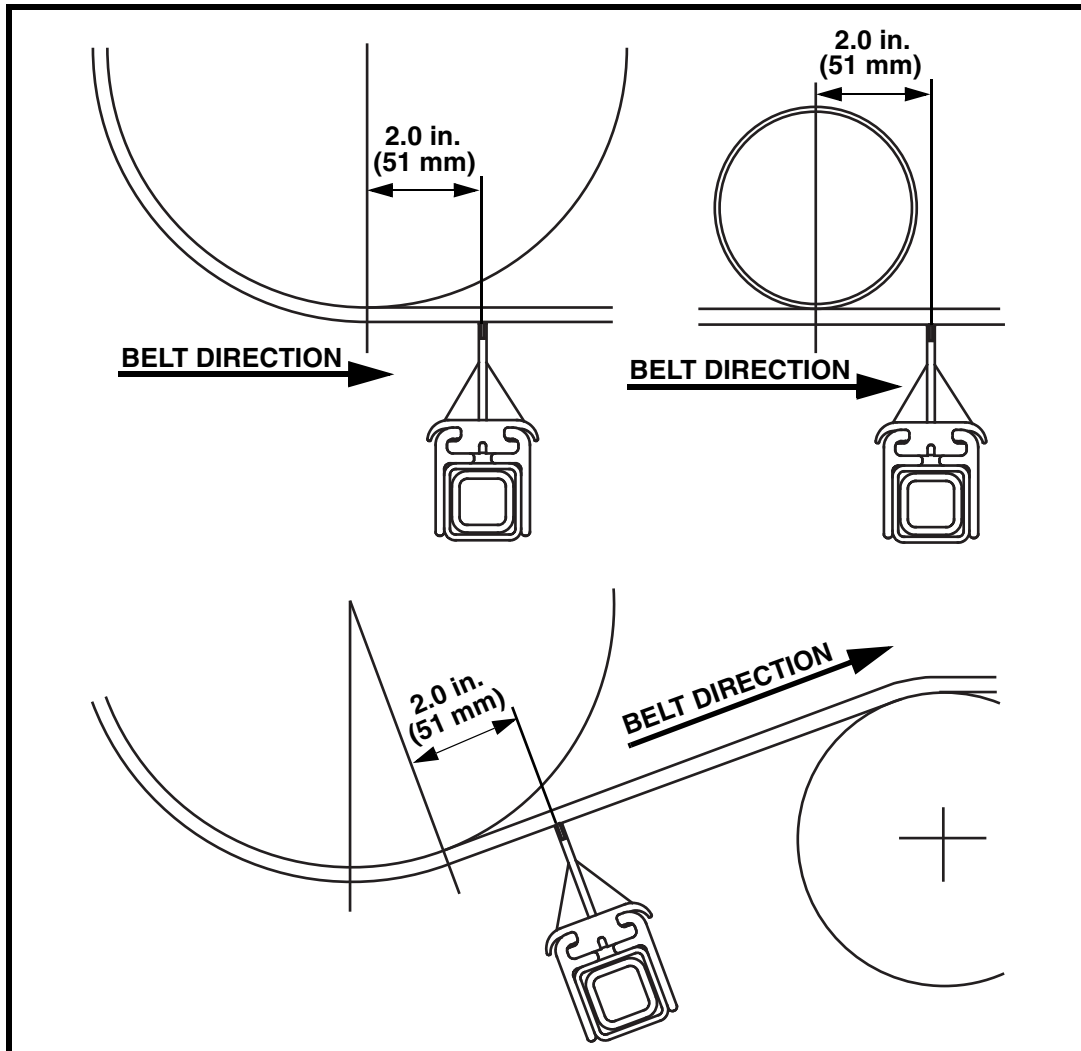

Figure 2. Primary Belt Direction
Solid backing of the blade is essential to ensure proper operation and efficient cleaning. Install the cleaner adjacent to the head pulley or a flat pressure roller to obtain best cleaning results. See Figure 2.
1. On the return side of the belt, locate the tangent point at which the belt leaves the head pulley. Measure a distance 2.0 in. (51 mm) and draw a line perpendicular to the belt at this point. See Figure 2.
For installation below pressure rollers, mark the vertical line 2 in. (51 mm) from the centerline of the roller. See Figure 2.